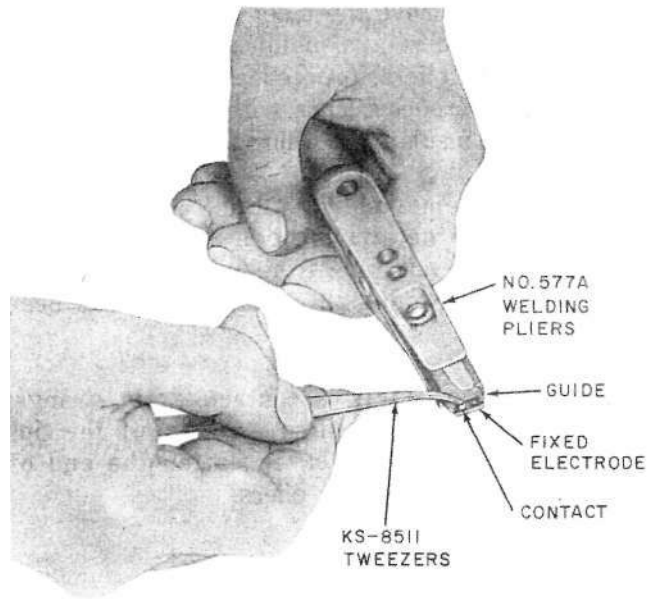

Fig. 9—Placing Contact in Fixed Electrode
4.20 Place a contact on the proper fixed electrode (Table A) as follows. Move the movable electrode away from the slot in which the contact is to be placed. Pick up a contact with the tweezers, grasping it so the tang on the contact will be in the correct position for the proper slot in the fixed electrode as shown in Fig. 9. Hold the contact so its flat face is toward the surface of the fixed electrode and the ribbed face toward the movable electrode and insert the tang of the contact in the proper slot in the fixed electrode. Using the tweezers, flatten the contact against the electrode.